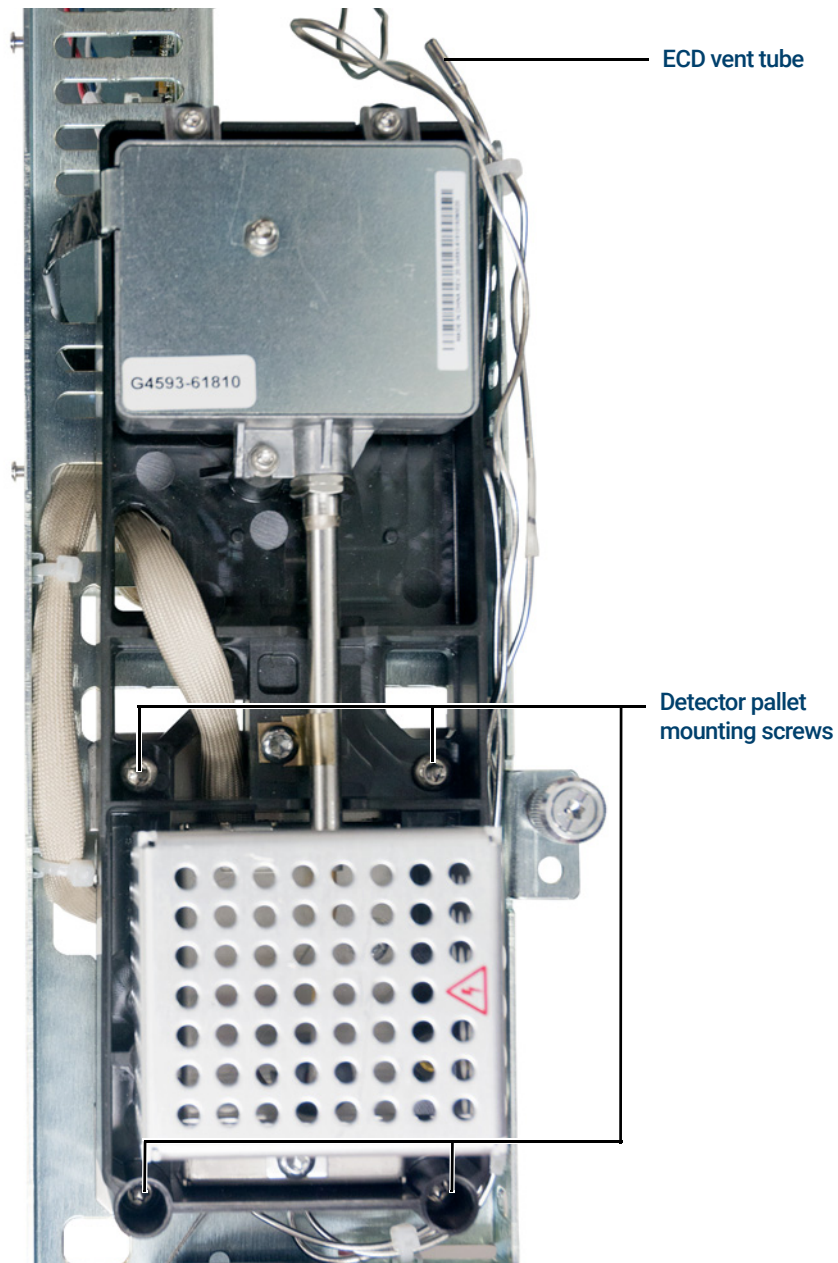

Figure 14. ECD vent tube and detector pallet mounting screws
- 14** Disconnect the ECD vent tube at the rubber sleeve. See **Figure 14**.
- 38 Use a T20 Torx driver to completely loosen the four screws securing the detector pallet to the detector module assembly. See **Figure 14** on page 30.